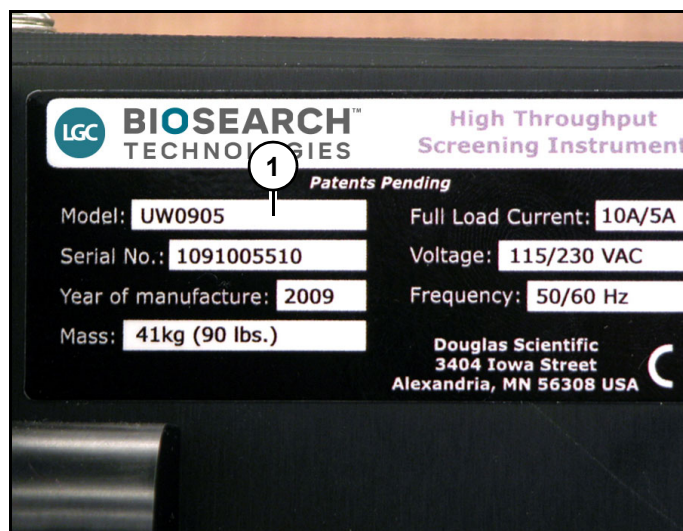

Figure 2
Example: Module shown, is UW0905 (1) (Figure 2), but will be referred to as UW0702 in manual.